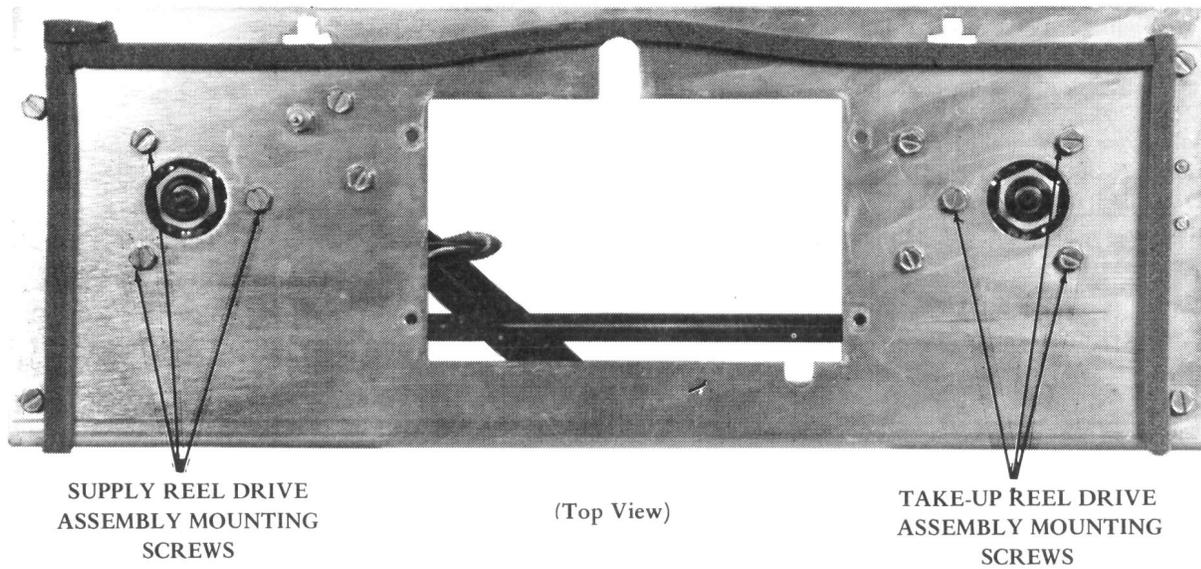

Figure 7 - Top Plate Assembly
- (5) Remove six reel drive mechanism mounting screws (TP151631) (Figure 7) and remove mechanism.